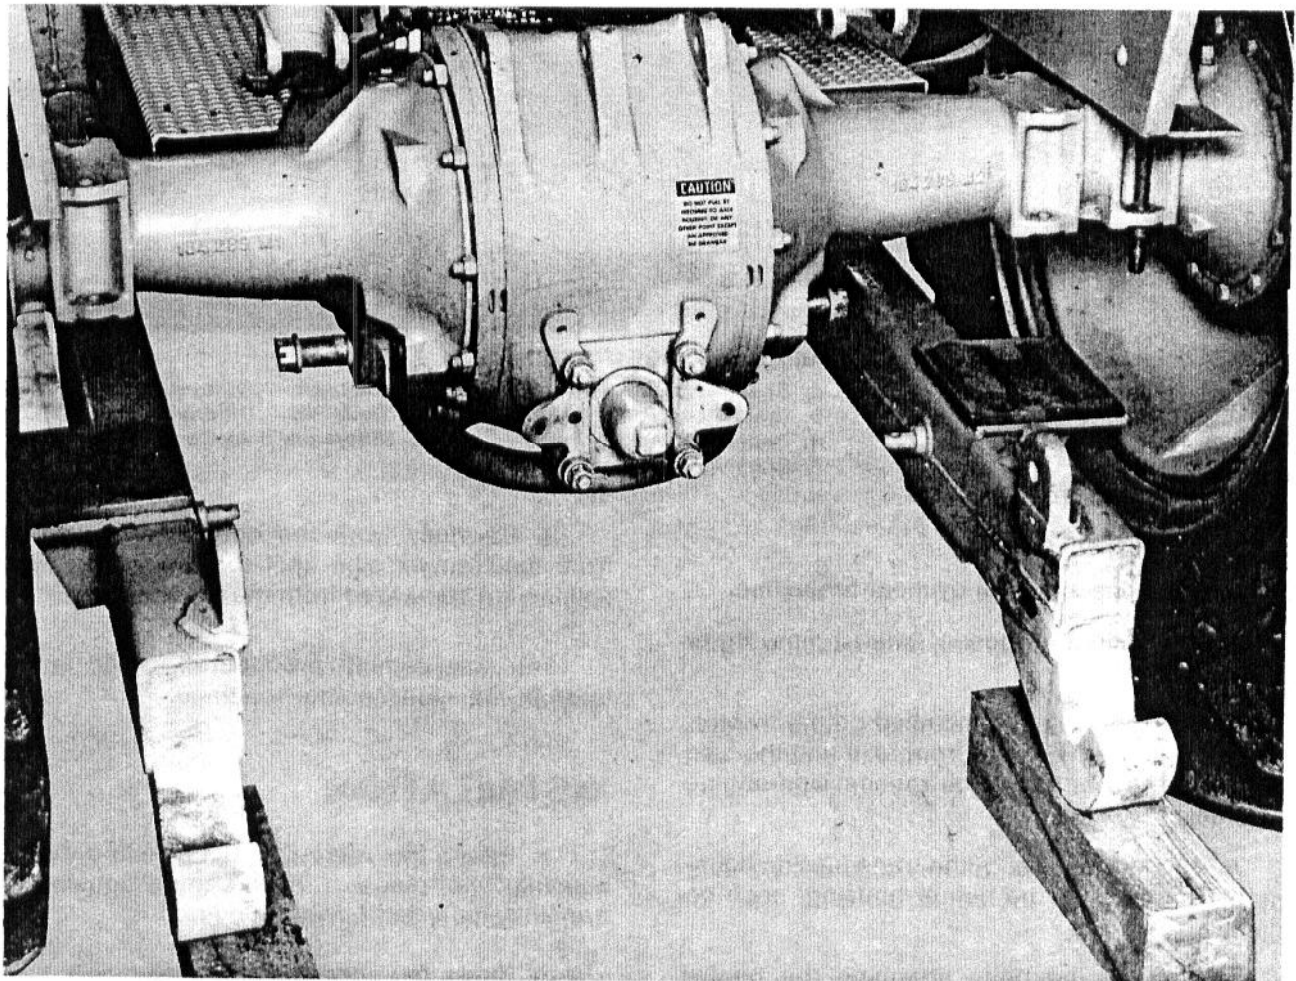

FIG. 5 — DRIVE AXLE ASSEMBLY WITH LOADER FRAME REMOVED
2. Drop loader (if installed) from drive axle assembly. Refer to Fig. 5.